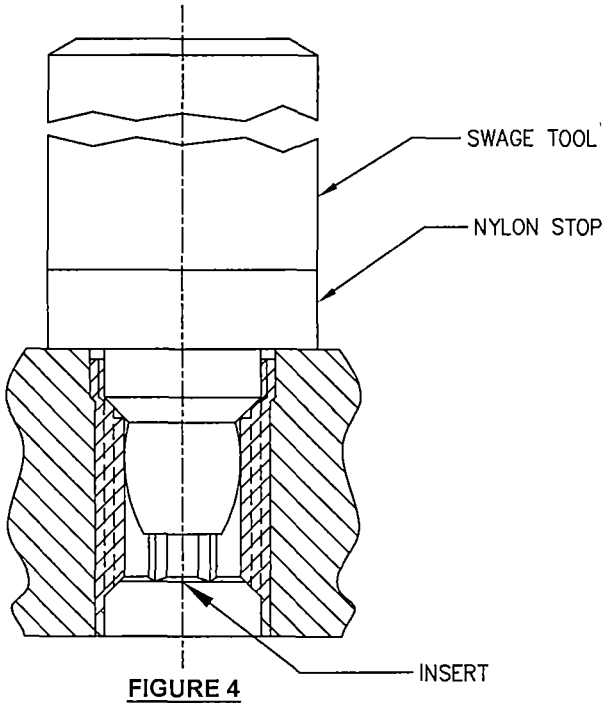

FIGURE 4
- 2.5 BEFORE SWAGING, ENSURE STRUCTURE IS SUFFICIENTLY SUPPORTED. POSITION APPLICABLE SWAGE TOOL PER TABLE 4 INTO INSERT AND APPLY A DOWNWARD FORCE SUFFICIENT TO BOTTOM THE NYLON STOP AGAINST THE PARENT MATERIAL AS SHOWN IN FIGURE 4. THE INSERT IS NOW SWAGED AND LOCKED.